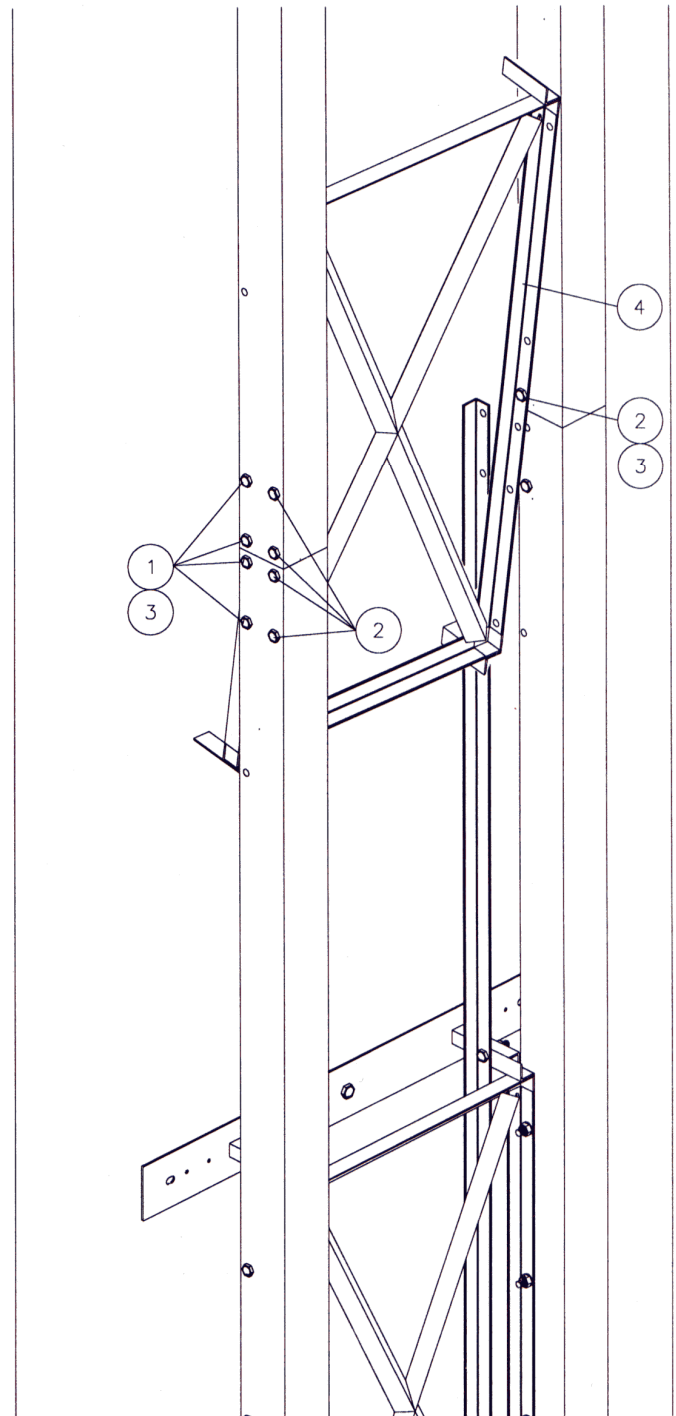

Figure 4. Installing the middle cross brace, looking from in front of the guide rails.
- b.) Put the 6 hole cross brace in place at an angle (Fig. 4) and insert one bolt on each side as shown. Remove the lower inside bolt, swing the cross brace into position and install the remaining bolts. Leave all bolts loose.